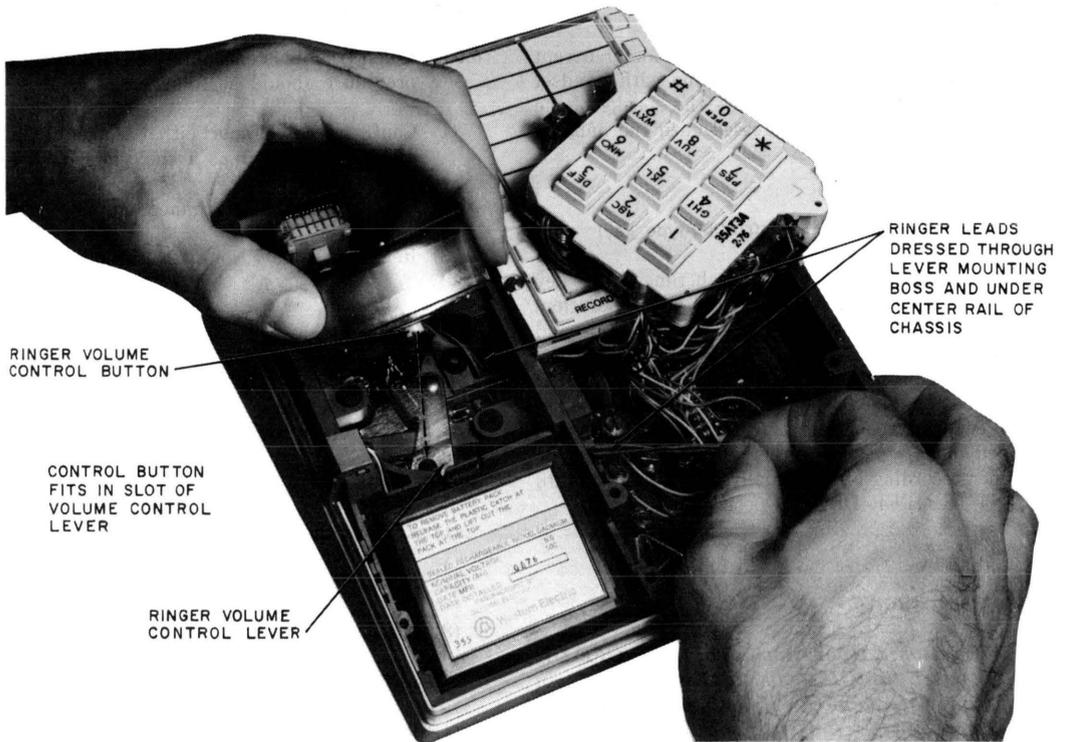

Fig. 8—Ringer Being Installed in 2960A01M Chassis With Dial Rotated onto Memory and Shield Removed
- (1) Remove the faceplate (3.14) and place the shield aside.
- (2) Disengage the two captive screws that hold the dial in place.
- (3) Gently lift dial, rotating counterclockwise to enable frequency switches located at lower front edge of dial to clear housing. As dial rotates clear, it may be placed on memory assembly with dial buttons up as in Fig. 8.
- (4) Check that dial connections are properly seated and reassemble by reversing the procedure.
- (3) Temporarily replace the lower housing and place the set on its feet.
- (4) Remove the upper housing (3.15).
- (5) Remove the dial [3.17 (2) and (3)] and place aside (Fig. 8).
- (6) Disconnect the ringer leads and remove ringer.
- (7) Dress the leads of the new ringer through the ringer adjust arm mounting boss and under the center rail of the chassis, and connect to the appropriate terminals.
- (8) As the ringer is lowered into its mounting position, pull any slack in the leads through to the dial side of the center rail (Fig. 8).
- (9) Replace the dial.
- (10) Remove the lower housing. Holding the ringer in position, turn the chassis over to expose the clearance holes in the power supply board.
- (11) Attach one ringer mounting screw onto the blade of a screwdriver, (see note).
- (12) Insert the ringer mounting screw into one location and secure ringer.
- (13) Align the ringer adjust arm over the ringer volume control button (Fig. 8).
- (14) Replace the remaining ringer mounting screw with the "special" screwdriver and tighten ringer into place.
- (15) Replace the housings, shield, faceplate, and handset.
- (16) Dial appropriate code for ring-back to test the ringer.
- (3) Release the dial [3.17 (2) and (3)] and place aside (Fig. 8).